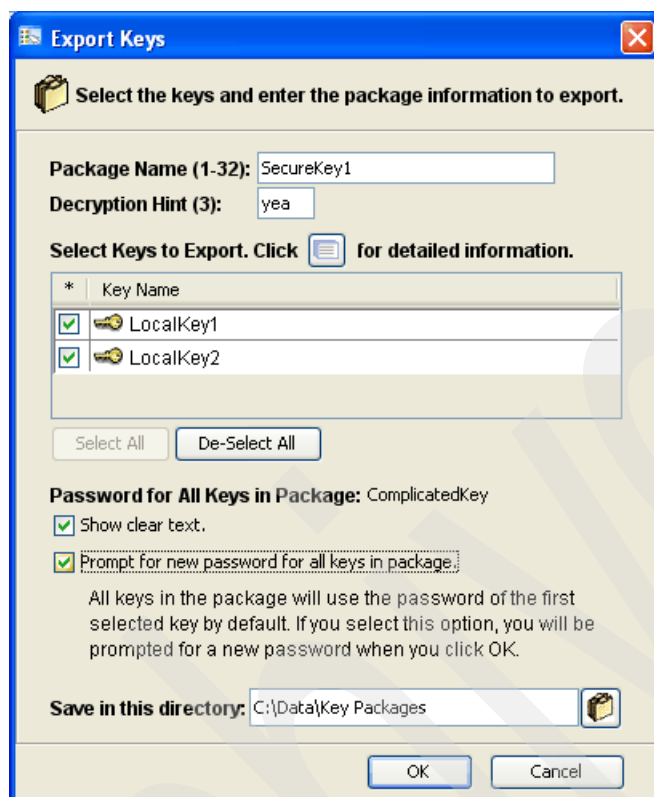

Figure 12-76 Selecting prompt for new password for all keys in package
1. From the window shown in Figure 12-76, select **Prompt for new password for all keys in package** and click **OK**.